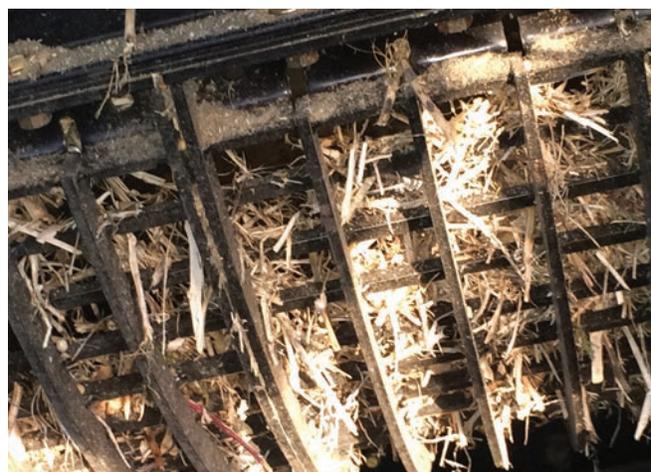

Figure 32.1
- By preventing the separator from emptying, as would be the case in a normal shutdown, the procedure allows inspection of the inside of the combine as if it were in operation (see figure 32.1)